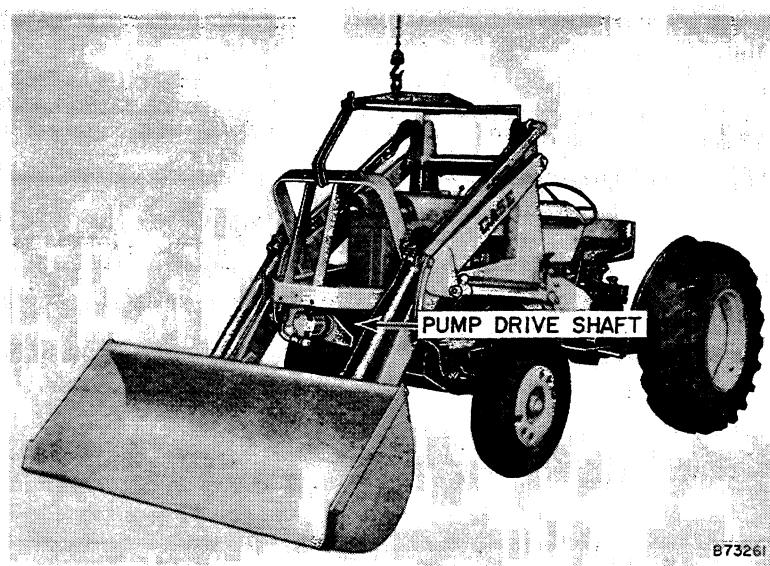

Figure 31 — Removing Loader
2. Connect hoist to Loader with chain or tool as shown in Figure 31.
5. Place a protective cloth over radiator shroud and side panels to prevent scratches on the paint, see Figure 31. Back the Tractor away from the Loader.